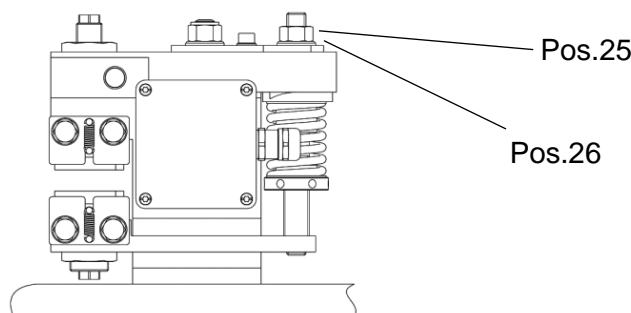

Fig. 5.1
To switch the brake without brake disc is only allowed if the assembly locking nut Pos. 25 in Fig. 5.1 remains on the brake and is loosened not more than 4 mm. Repeated switching without brake disc and without assembly locking nut can damage the brake. Unauthorized constructive modifications of the brake are similarly prohibited. If the grub screw pos. 44 is provided with sealing wax at the factory, the clamping force on the brake cannot be adjusted by the customer!
<p>Attention!</p> <p>To switch the brake without brake disc is only allowed if the assembly locking nut Pos. 25 in Fig. 5.1 remains on the brake and is loosened not more than 4 mm.</p>
The brake is tested prior to delivery. The braking force is adjusted to the maximum braking force. The compression spring for the clamping force is fixed in the open position by the assembly locking nut Pos. 25 in Fig. 5.1, to assemble the brake to the disk without supply voltage.
To use the brake the electronic Pos. 34 (included in the scope of delivery) is mandatory. Do not connect the brake directly to the supply voltage. To switch the brake without brake disk is only allowed if the assembly locking nut Pos. 25 in Fig. 5.1 remains on the brake and is loosened not more than 4 mm.